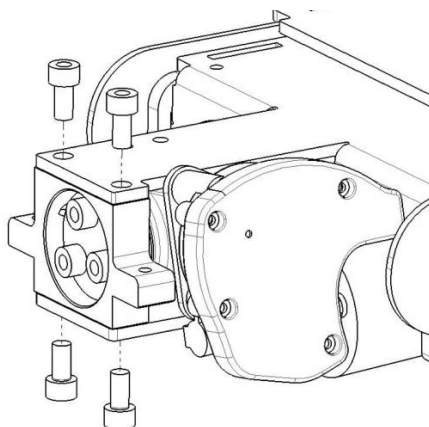

Fig. 2. Remove the four screws holding the rear end of the actuator.
2. Remove the four screws holding the rear end of the actuator. See fig. 2.